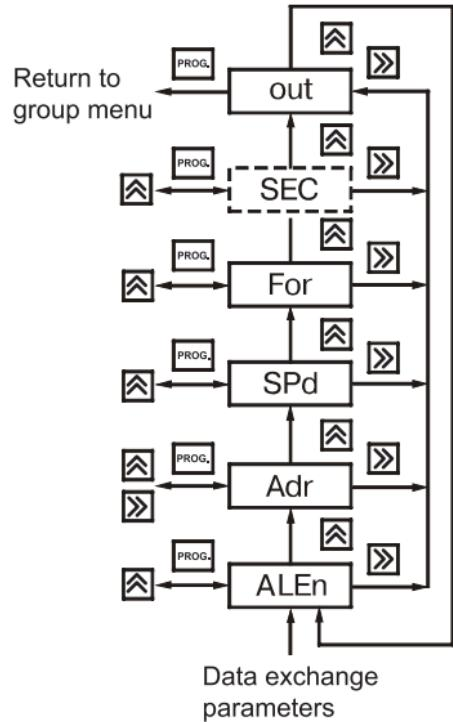

Figure 27.
6.1.10. «**GrouP_E**» group (figure 27) is used to set instrument network address **Adr**, its digit capacity **A.LEn**, data exchange rate **SPd** and sending format **For** (if RS-485 interface is present).